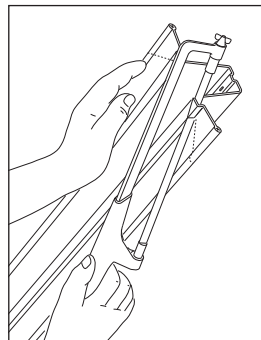

Fig 6 Make angled cut, if required
- 8 Trim top flanges of batten section to maintain angle of external corner of hip. If necessary, make a horizontal cut in walls of batten section, to enable it to fit over fascia upstand (Fig 6).